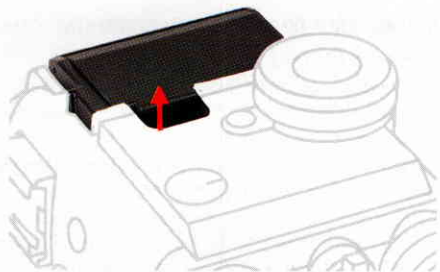
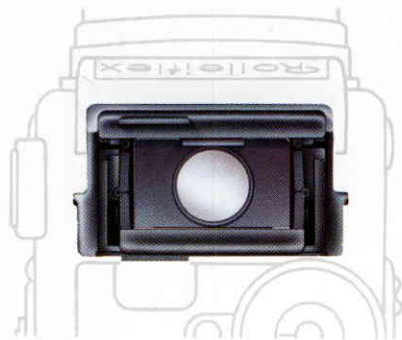

Fig 34
Fig. 35
- *To use the reflex hood viewfinder lift up the flap (fig. 34) and the reflex hood is automatically erected. This action also cuts out the action of the eye level viewfinder. The subject may now be viewed from above, the image is upright but laterally reversed. The viewfinder data is also laterally reversed. For critical observation the viewfinder magnifier is swung into the horizontal position by its grip and the eye placed close to it. The screen may now be observed in great detail (fig. 35).*